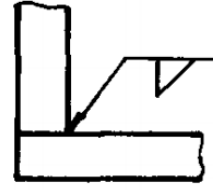

figure 23
47. Explain the welding symbol placed on figure 23 below